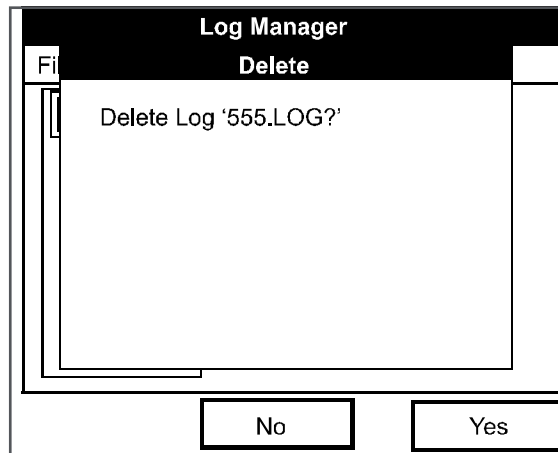

Figure 120: The Delete Confirmation Window
3. A delete confirmation window opens, as shown in *Figure 120*. Press **[F2]** (No) to stop the deletion, or **[F3]** (Yes) to delete the log.